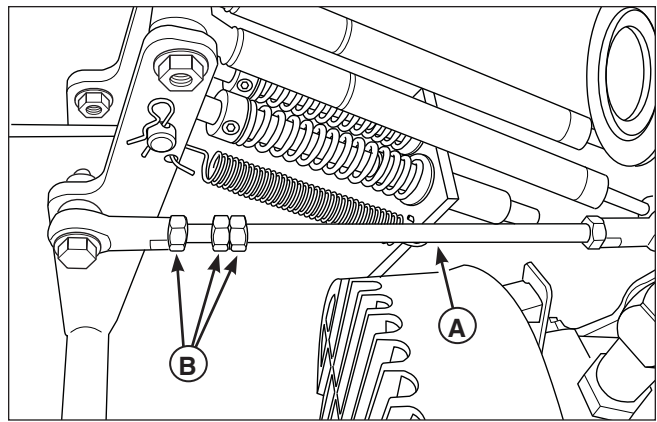

Figure 41. Neutral Adjustment
2. There are three nuts (B, Figure 41) on the linkage rod. The first two are to be used together to turn the rod and the third (towards the front of the machine) is used to lock the rod in place. Loosen the jam nut that locks against the ball joint and turn the linkage rod (A) to adjust. If the machine creeps forward, turn the rod CLOCKWISE (while standing at the rear of the machine, facing forward), if the machine creeps backward, turn the rod COUNTER-CLOCKWISE.
3. Lock the jam nut (B) against the ball joint when neutral is achieved.